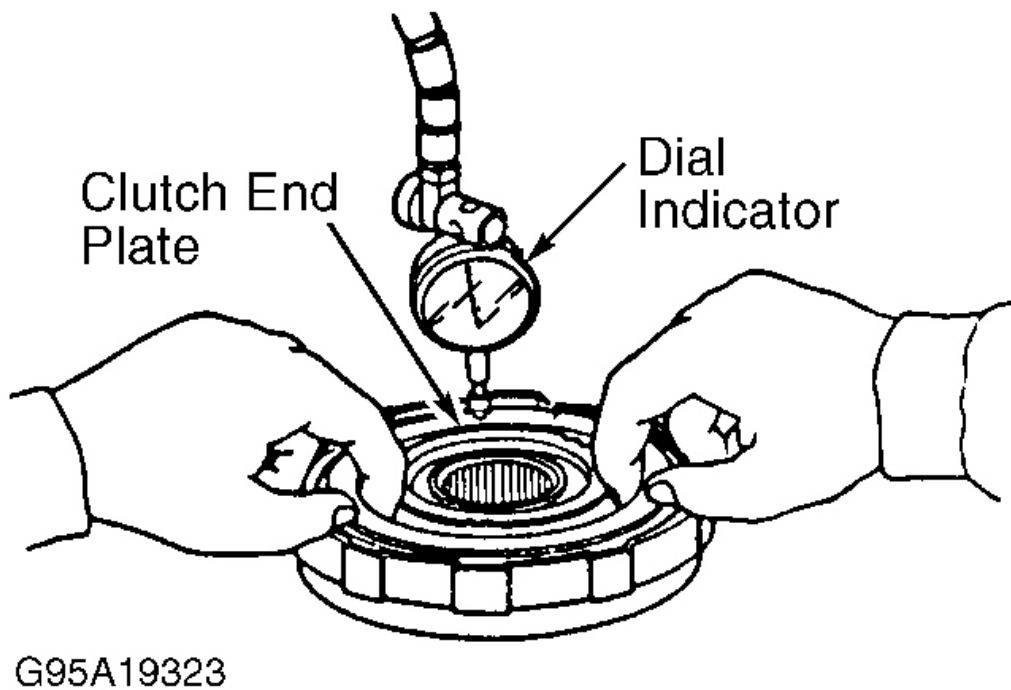

Fig. 23: Measuring Clutch Clearance
5. Using dial indicator, measure clutch clearance between clutch end plate and top clutch disc. See **Fig. 23**. Zero dial indicator with clutch end plate lowered. Lift clutch end plate upward against snap ring. Distance measured is clutch clearance.